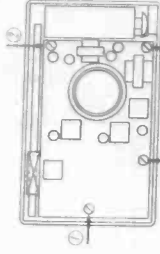

Fig. 1. How to Demount the Circuit Board
1. When demounting the circuit board, open the rear cover first, extract batteries and remove screws (1), (2), (3) and (4) in Fig. 1.